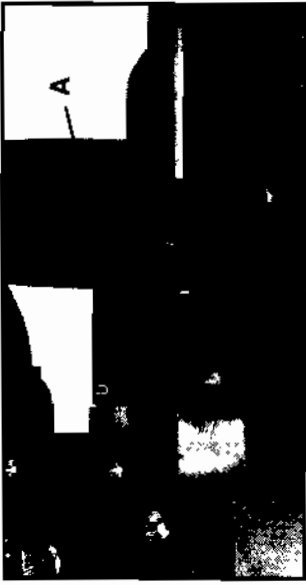

Fig. 12
9. Rotate the "quick set" depth adjusting turret (A) Fig. 12, to the "FF" position.